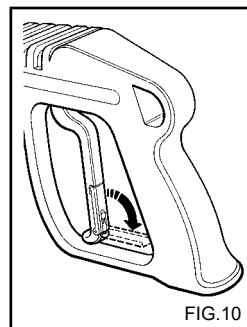

FIG. 10
- When the water cleaner is not used, close the safety device on the handle.(fig.10)